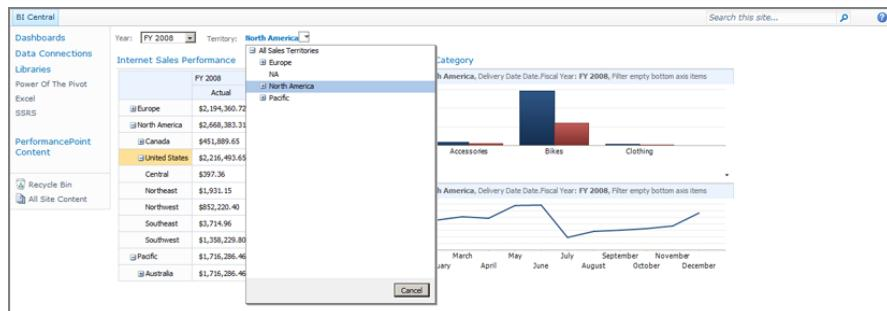

Figure 7-4
- **Filters:** Filters enable you to define the context within the dashboard by selecting a subset of the data. They exist external to all other objects, enabling a single filter to affect multiple objects through connections that are configured, as shown in Figure 7-4.